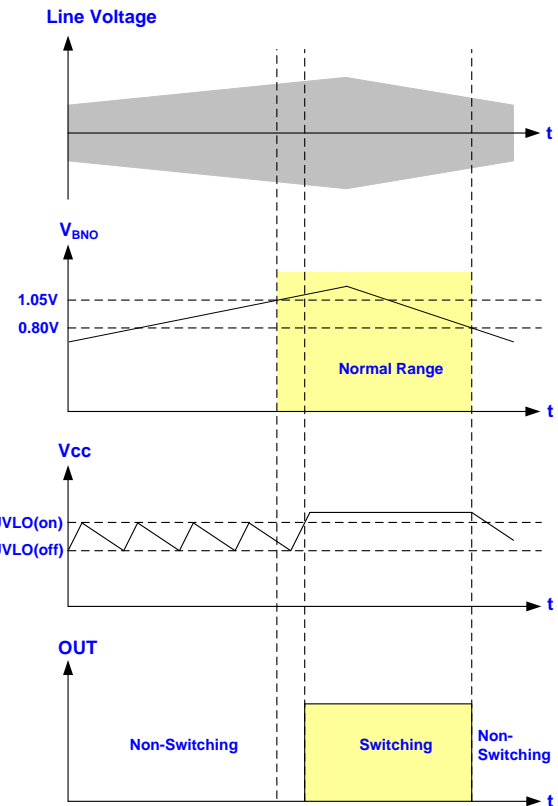

Fig. 24
The LD5532 is programmable for the brownout protection point through BNO pin. The voltage across the BNO pin is proportional to the bulk capacitor voltage, referred as the line voltage. A brownout comparator is implemented to detect the abnormal line condition. As soon as the condition is detected, it will shut down the controller to prevent the damage. Fig. 24 shows the operation. When VBNO falls below 0.80V, the gate output will remain off even as Vcc achieved UVLO(ON). It therefore makes Vcc hiccup between UVLO(ON) and UVLO(OFF). Unless the line voltage is large enough to pull VBNO over 1.05V, the gate output will not start switching even when the next UVLO(ON) is tripped. A hysteresis is implemented to prevent the false trigger during turn-on and turn-off.